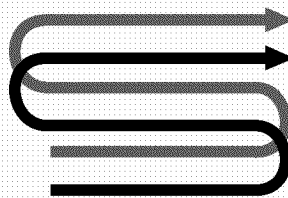

Figure 10: Use an overlap technique on every pass.
1. When preparing a seedbed, go over the same path twice in the first row, then overlap one-half the machine width on each successive pass (Figure 10).